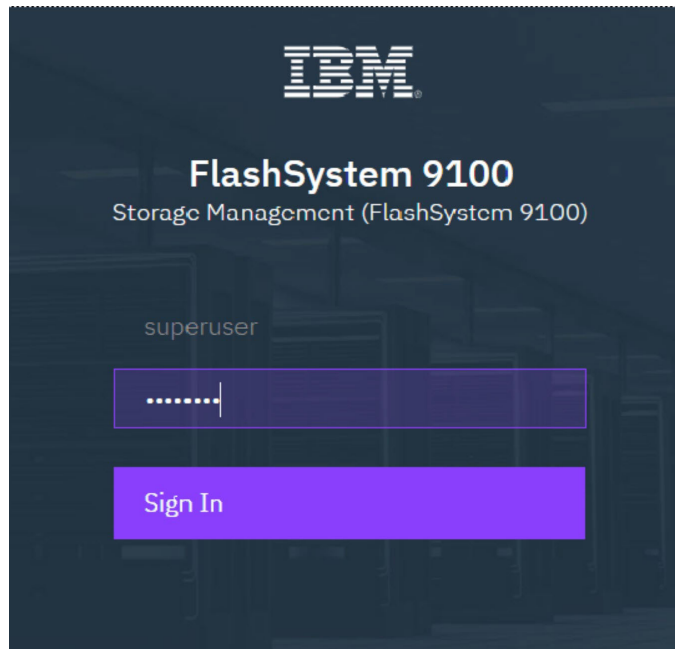

Figure 2-16 Logging in for the first time
1. Log in to system GUI. Until the wizard is complete, you can use only the *superuser* account, as shown in Figure 2-16. Click **Sign in**.